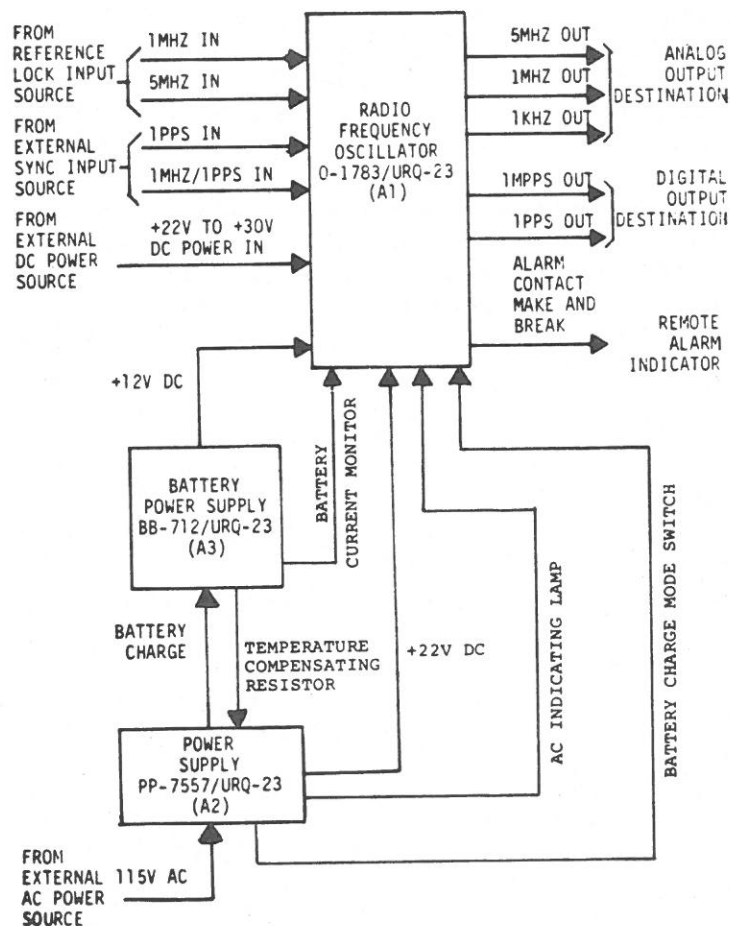
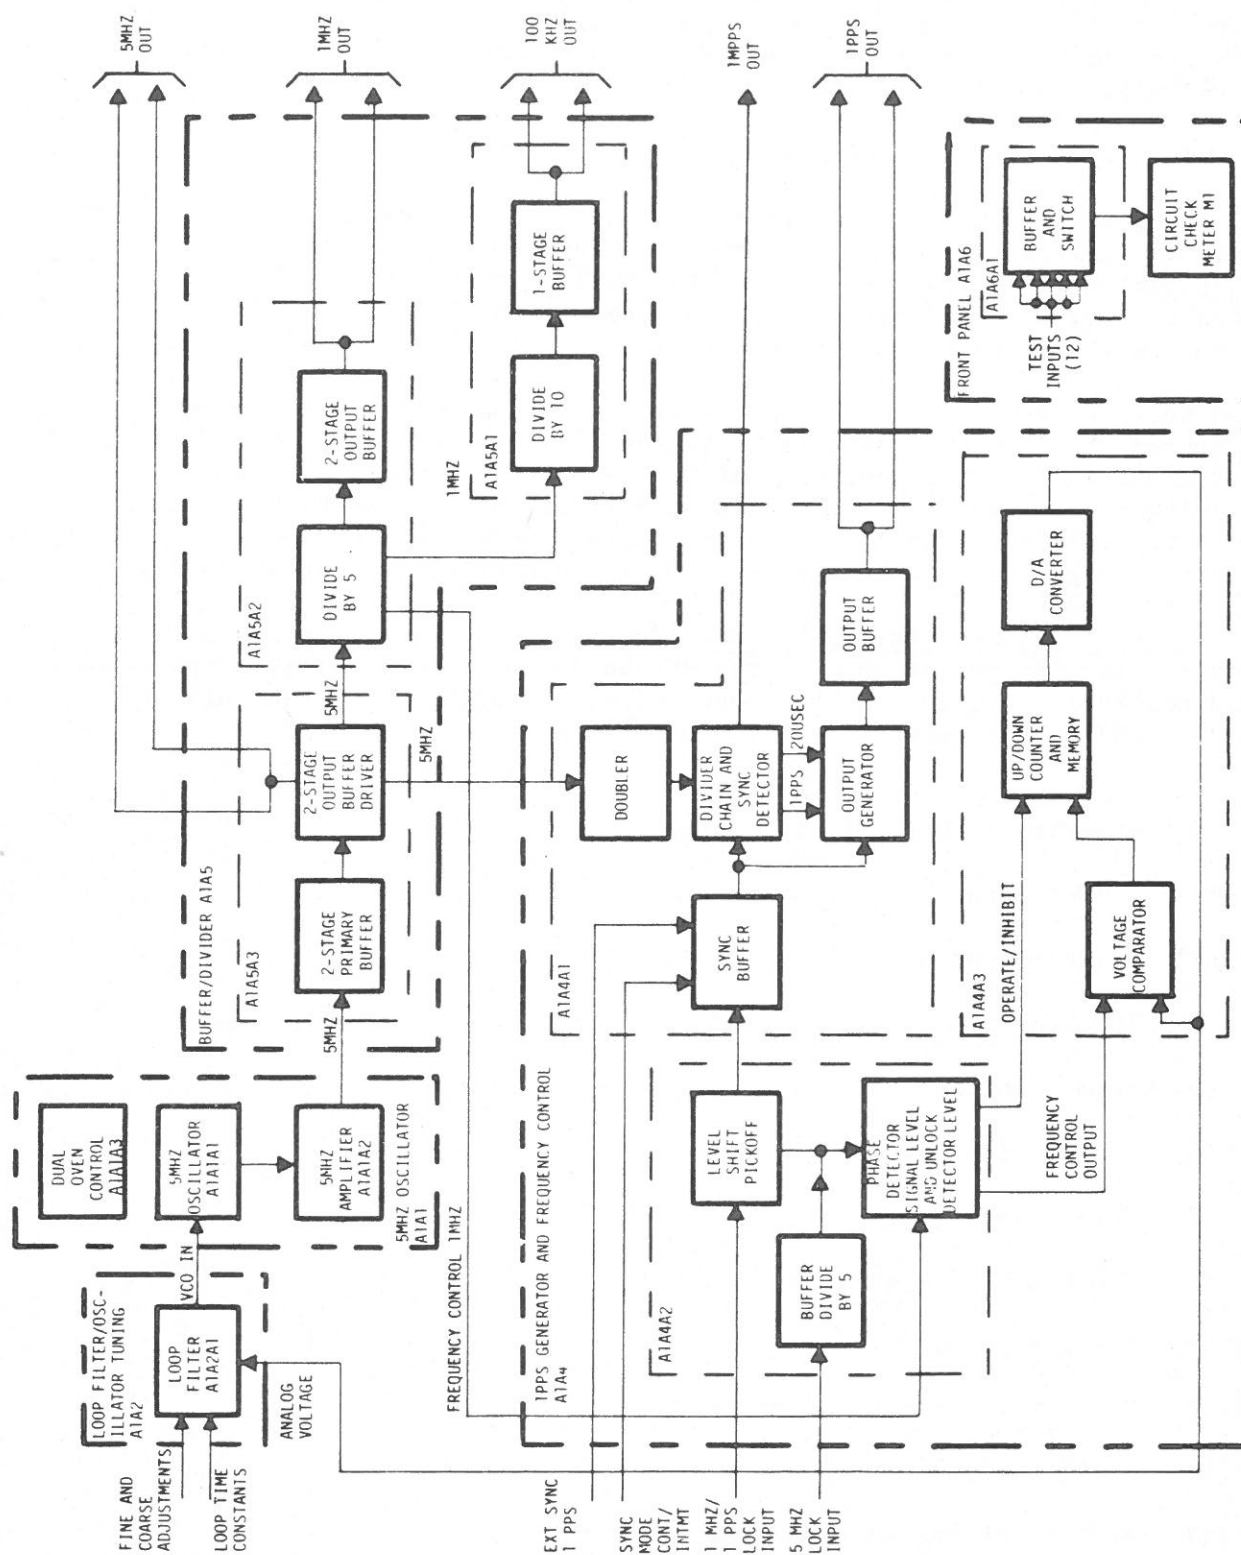
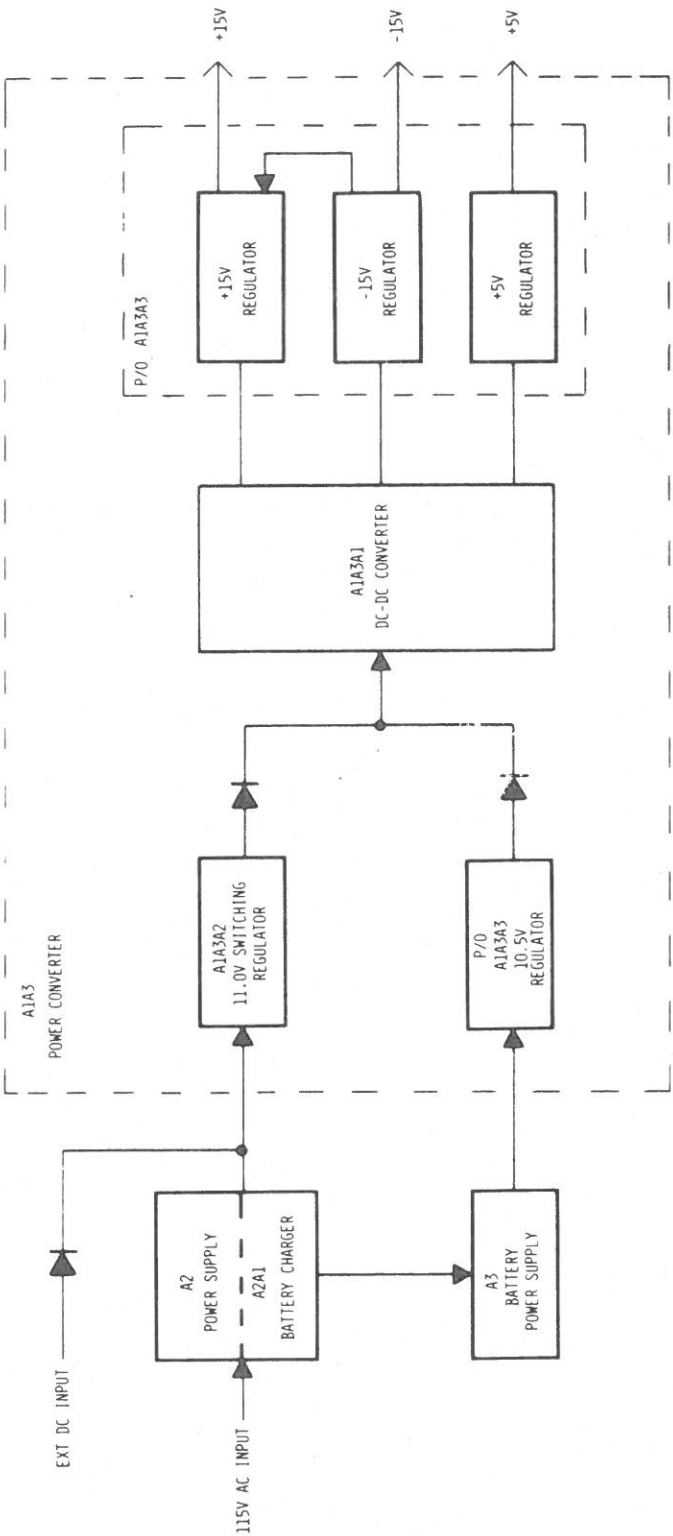

Figure 3-1. Overall Block Diagram
Figure 3-2. Signal Generating Functional Block Diagram
Figure 3-3. Power Control and Distribution Functional Block Program
3-2. OVERALL BLOCK DIAGRAM DESCRIPTION. An overall block diagram of the standard is shown in figure 3-1 and detailed block diagrams are shown in figures 3-2 and 3-3.
a. Rf Oscillator A1. This module contains six assemblies shown in figure 1-2. The functional block diagrams for the module are shown in figure 3-2 and figure 3-3.
The circuits shown in figures 3-2 and 3-3 are divided into assemblies, subassemblies, and stages for purposes of discussion only. During maintenance, troubleshooting should not be performed below the level of the assemblies in the module. Further troubleshooting is beyond the capabilities of organizational level maintenance technicians. Subassemblies must be forwarded to the authorized repair depot for repair.
(3) Power Converter AlA3. The block diagram of the power supply system is shown in figure 3-3. The power converter assembly accepts three dc input power sources and converts them to regulated +15 volts, -15 volts and +5 volts dc for the standard. The conversion involves the use of a switching regulator, which accepts either external dc input (22 volts to 30 volts) or +22 volts from a rectified and filtered ac source. The output of this switching regulator is set for +11.0 volts. The battery pack A3 output is regulated to 10.5 volts through linear regulator AlA3A3. Both the 11.0 volt output and the 10.5 volt output are OR-gated to the input of dc/dc converter AlA3A1. Normally the 11 volt output operates dc/dc converter and the 10.5 volt output is used as a standby that only operates when both inputs to the switching regulator are absent. The outputs of the dc/dc converter are further regulated to +15 volts, -15 volts and +5 volts. The alarm relay is located within this assembly to sense the absence of ac power and automatically switch in the external dc input power, when available, or the battery power supply. The remote alarm indicator is also activated.
(4) 1 PPs Generator and Frequency Control AlA4. Two independent circuit sections are housed within this assembly.